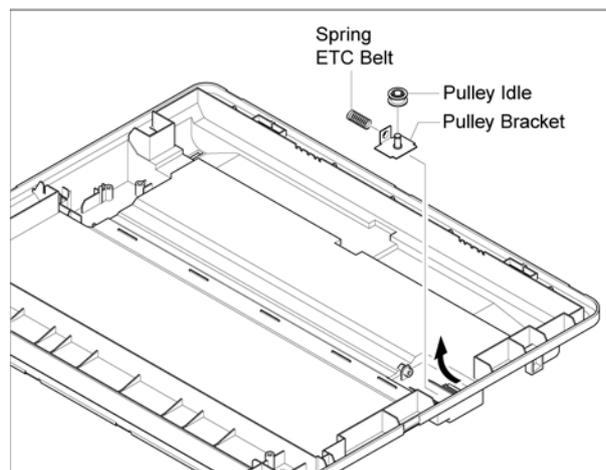

Figure 13
15. Remove the Spring then the Idle Bracket in the direction of the arrow, Figure 13.